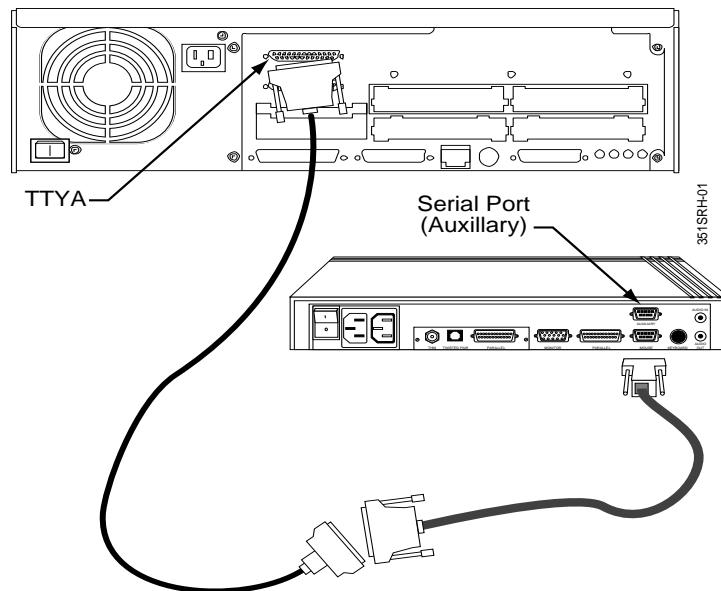

Figure 2-22: Connecting the X-Terminal to the Ultra Primary or Secondary CP
2. Before applying power to the computer, attach the DB25-DB9 serial maintenance cable between TTYA on the computer to the auxiliary serial port on the back of the x-terminal (see Figure 2-22).